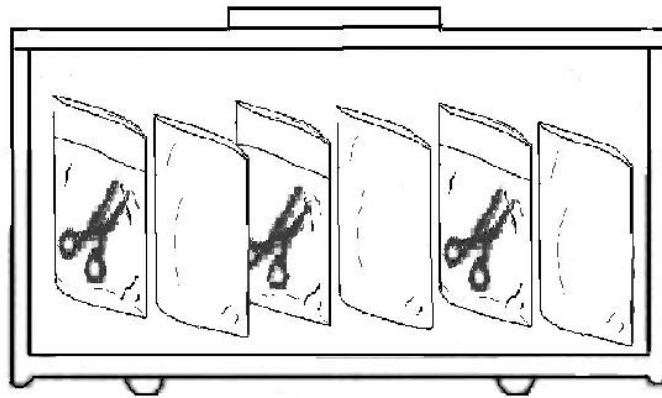

Figure 30
**Warning:** If implements are packed with sterilizing pouches and placed inside a sterilization box, make sure to display items as Figure 30.